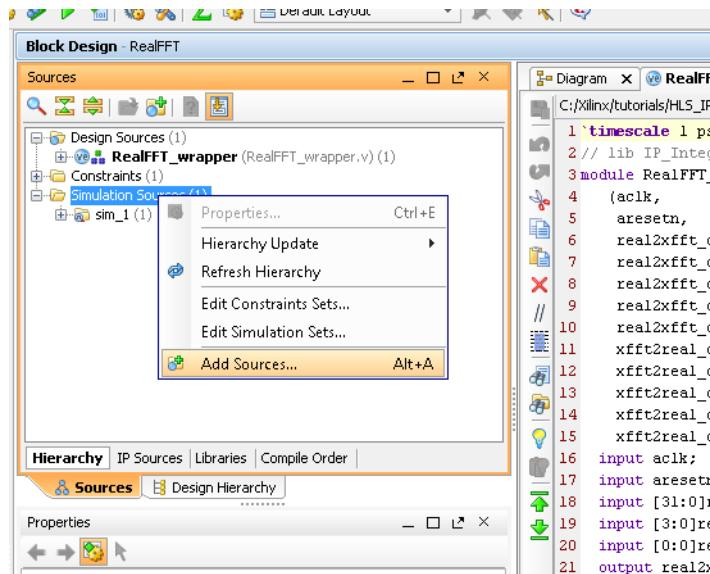

Figure 9-27: Adding Simulation Sources
- Right-click **Simulation Sources** in the Sources tab of the Project Manager pane (Figure 9-27).